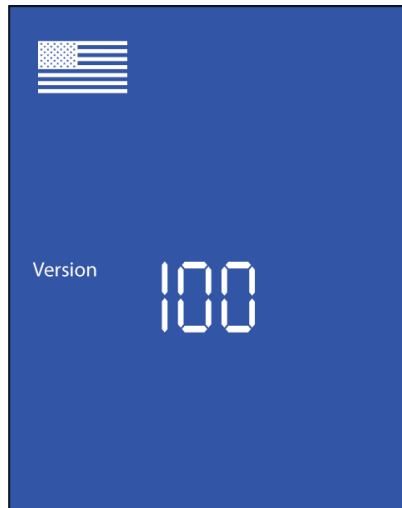

Fig 1
- Software version is displayed (**Fig. 1**)